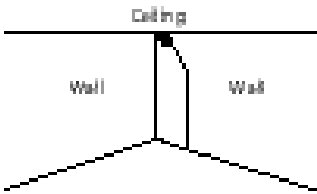

Fig. 13
- Remove the plate from a PZM-6D. Install the capsule/holder in an upper corner of the room as in Fig. 13. This arrangement increases microphone output by 12 dB and gives surprisingly clear reproduction. Large rooms may require such a pickup in all four corners.